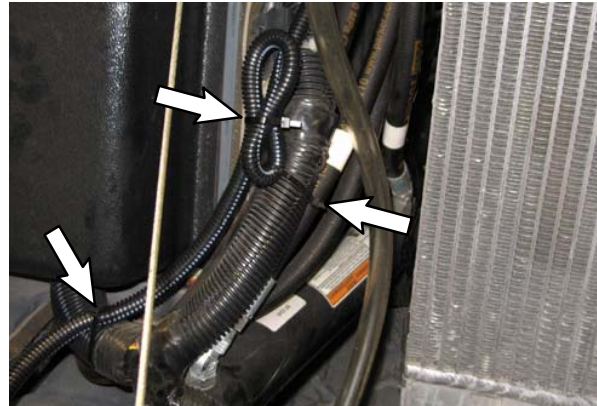

FIG. 18
18. Neatly bundle the telemetry harness (4) and secure bundled cable with a cable tie (6). Use two additional cable ties to secure the engine harness telemetry connector cable to the main wire harness. (Fig. 18)